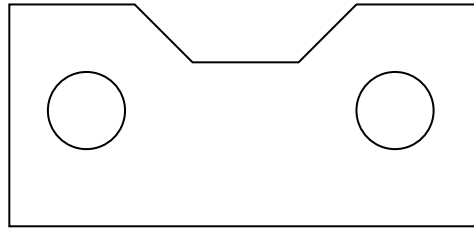

Fig. 6.23 Example – simple tolerances – outline
1. Construct the outline in Fig. 6.23.